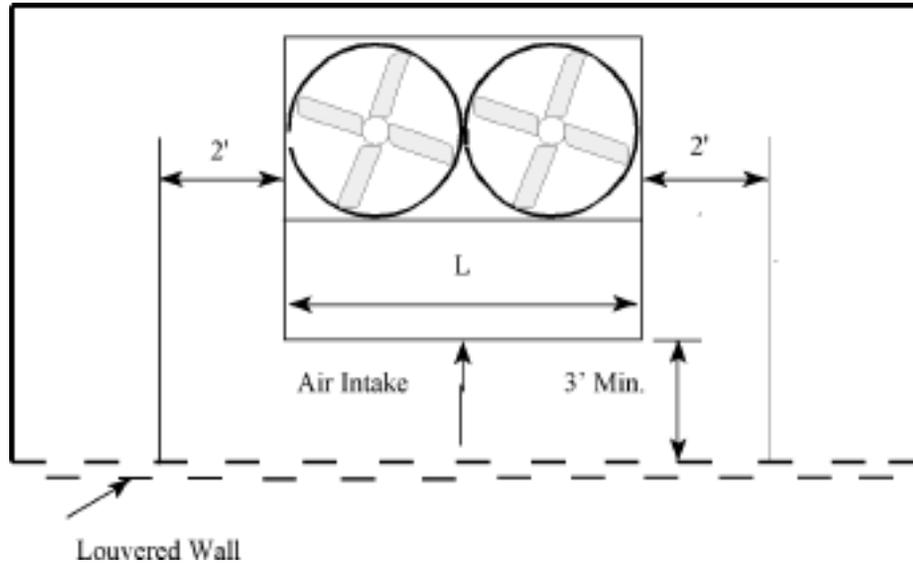

Figure 4: Plan view of a single air lintake unit in enclosure with louvered walls
- c. If the available space does not permit the unit can be arranged with the air intakes facing the louvered or slotted walls and the enclosure cannot be modified to permit such an arrangement, consider the alternative illustrated in Figure 4. This arrangement should be restricted to one-cell or two-cell installations. The effective area of the louvers is only the length extending beyond the width of the tower.